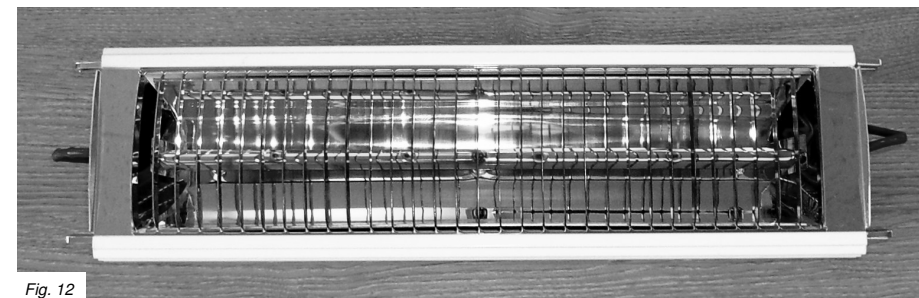

Fig. 12
12. The guard and side reflectors can now be refitted. Starting with the guard, slide it down its track and roughly centralise it. Then slide the side reflectors in at each end (Fig. 12).